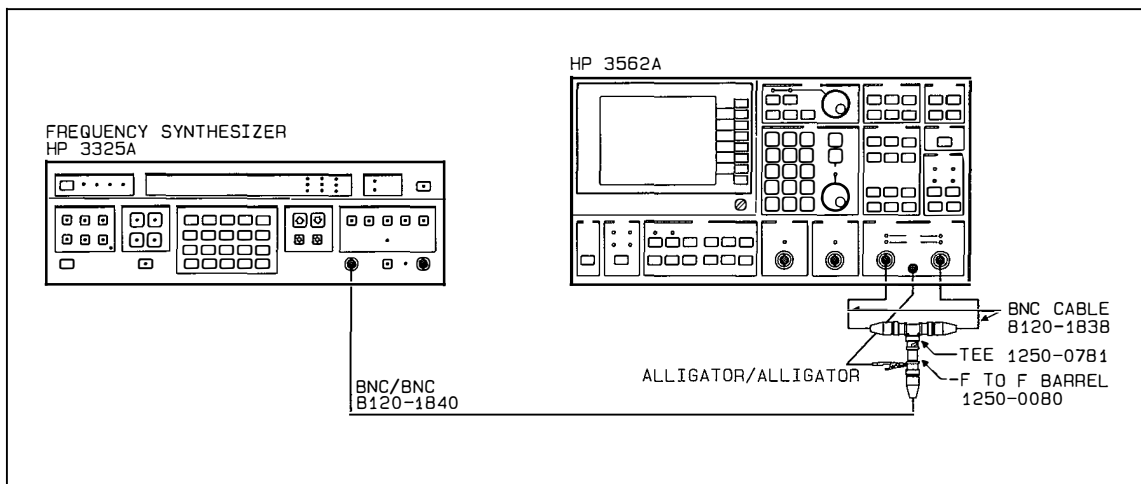

Figure 2-6 (OV) Common Mode Rejection Test Setup #1
A. Connect the test instruments as shown in figure 2-6. Refer to “Initial Equipment Setup”, paragraph 2-6, for unspecified parameters.